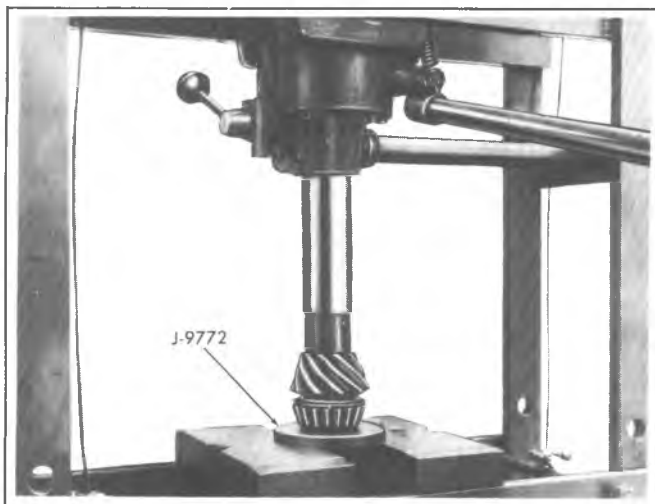

Fig. 23F--Installing Inner Pinion Cone and Roller
5. Press inner pinion bearing cone and roller onto pinion shaft using Installer J-9772 on arbor press as shown in figure 23F.